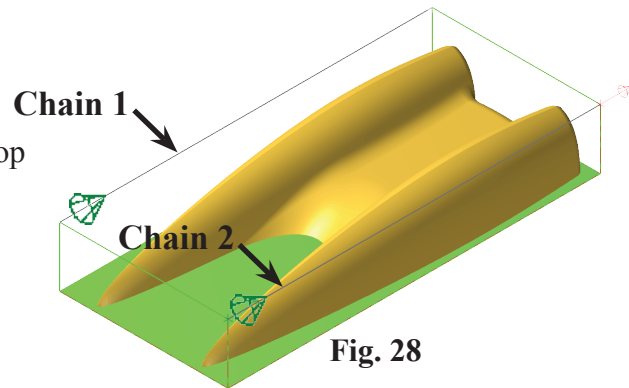

Fig. 28
Step 10. Click **Chain 1** and **Chain 2** at the top of the bounding box, **Fig. 28**. If the chaining directions arrows are not pointing in the same direction - click Reverse .